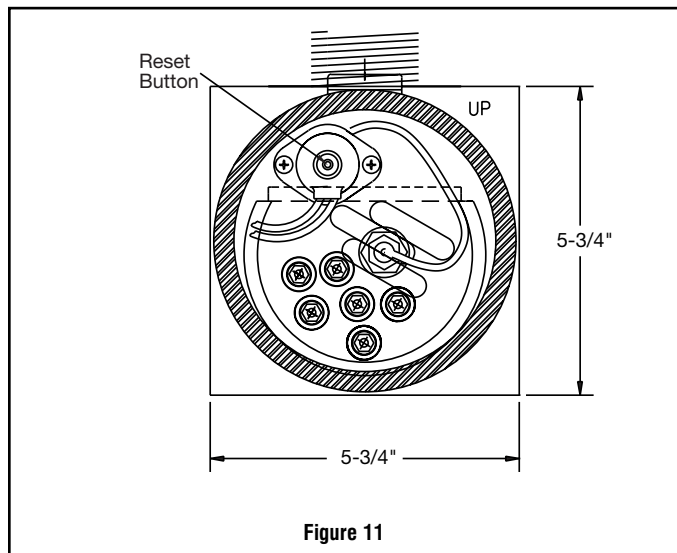

Figure 11
1. The manual reset limit control is located in the heating element hazardous location enclosure on the heat exchanger which is covered by the sheet metal housing attached to the side of the unit. To gain access, remove the four sheet metal screws holding the sheet metal cover in place and unthread the cast aluminum enclosure lid. (See Figure 11.) The manual reset limit control device has a small reset button protruding from the center of its back housing. Depress this button in to reset the control. Replace the aluminum enclosure lid and sheet metal cover.